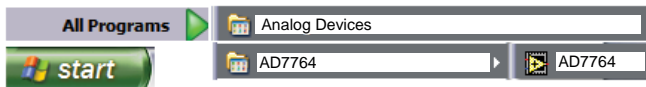

Figure 14. Default EVAL-AD7764/AD7765 Evaluation Software Location
1. The download default location for the EVAL-AD7764/AD7765EBZ evaluation software can be found by clicking **Start > All Programs > Analog Devices > AD776x > AD776x**. These steps are illustrated for the case of the AD7764 in Figure 14. If a location other than the default was used, follow the path that was entered during setup.